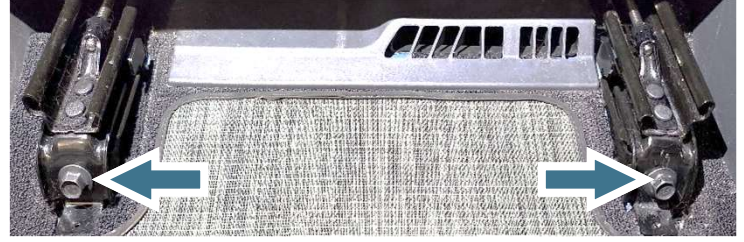

Figure 14
2. Remove the bolts securing the seat rails to the floor. (Figure 14)